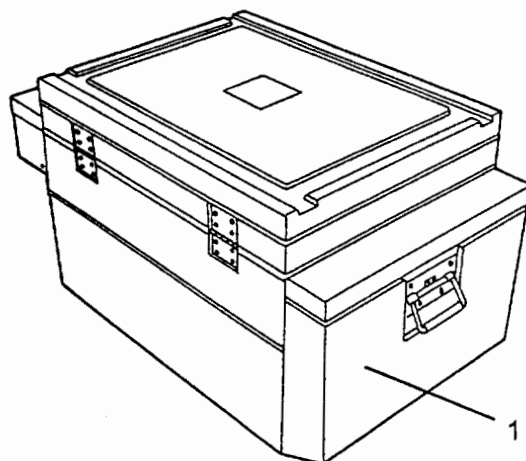

Figure 4-8 — Cable Storage
416. When the blood refrigerator is not in use store the cables in the storage box (1) on the side of the refrigerator (Fig 4-8).